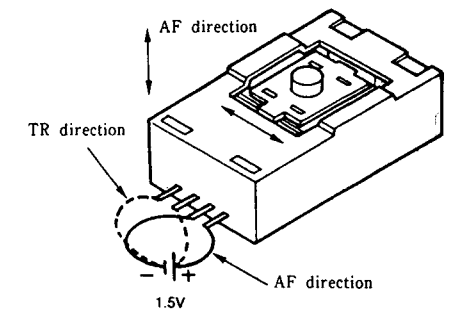

Fig. 14
**6. Inspection of the actuator (Fig. 14)**